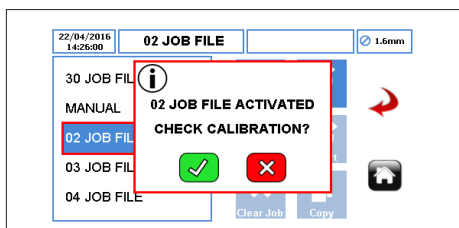

Figure 27 Job File Activated
4. **ACTIVATE ICON** – activates the selected Job File and any changes made. If the pump is running, the activate icon will be 'greyed out'. Once a Job File has been activated, the user will be prompted as per *Figure 27*.